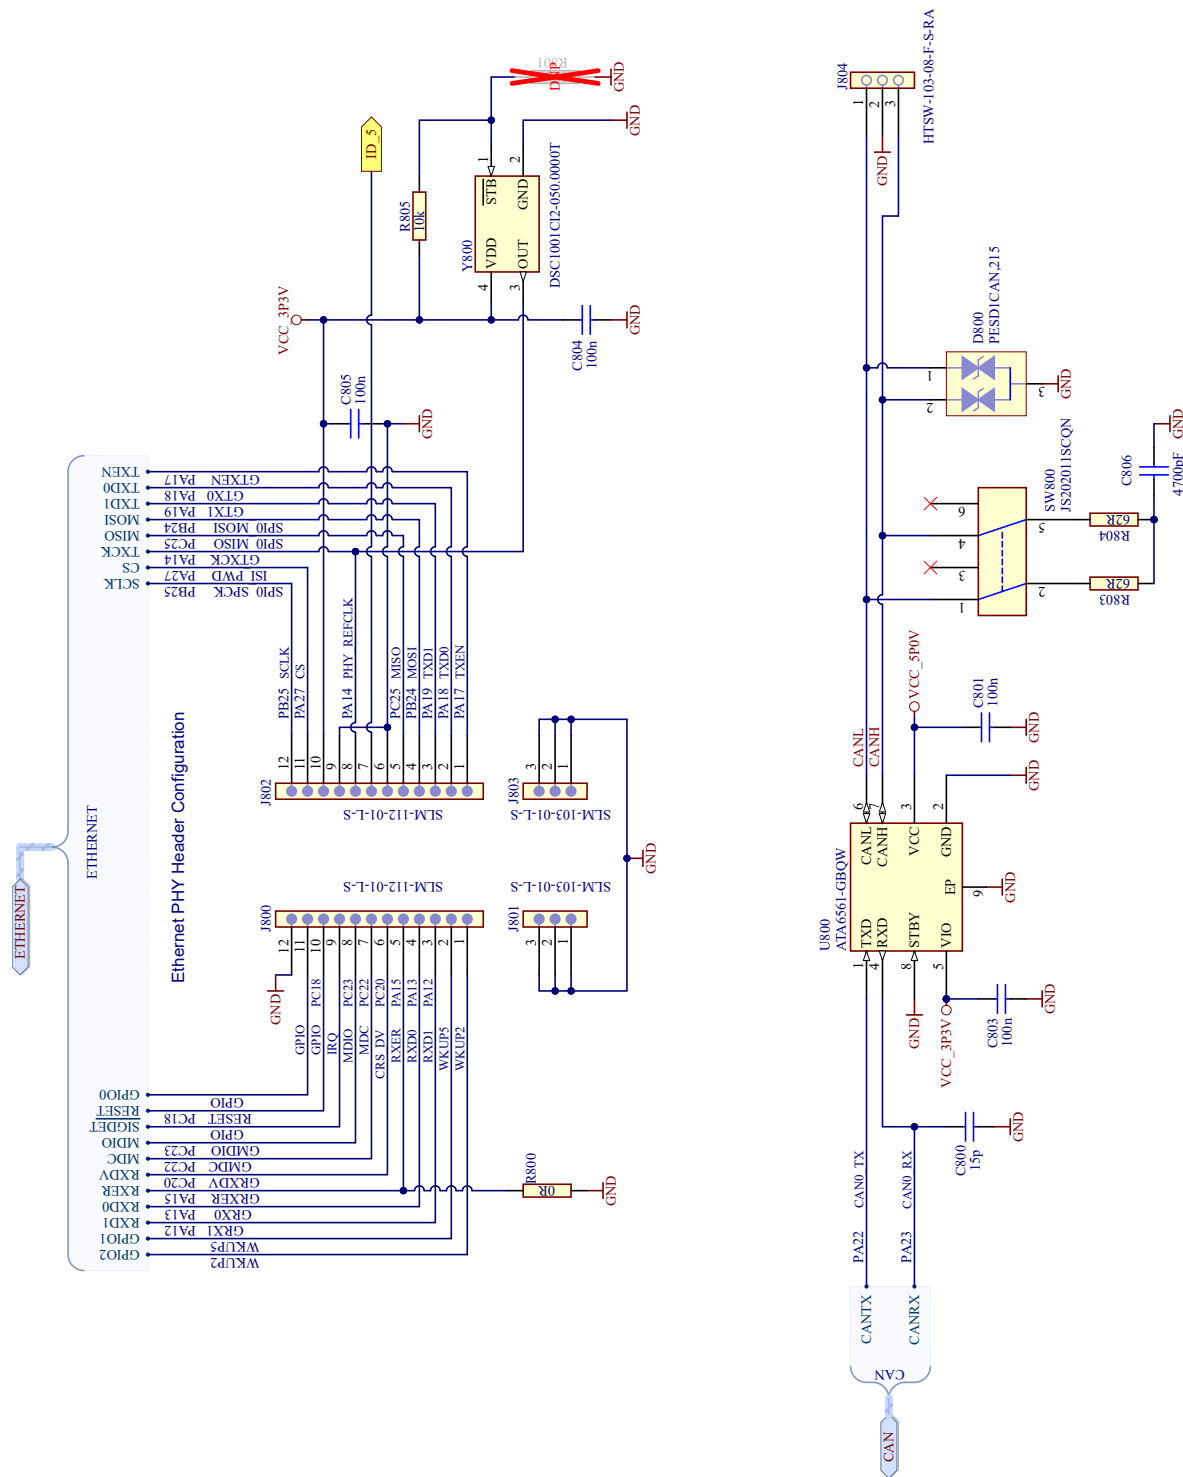

Figure 2-9. mikroBUS and X32 Audio Schematic
- mikroBUS and X32 Audio Schematic, Figure 2-9